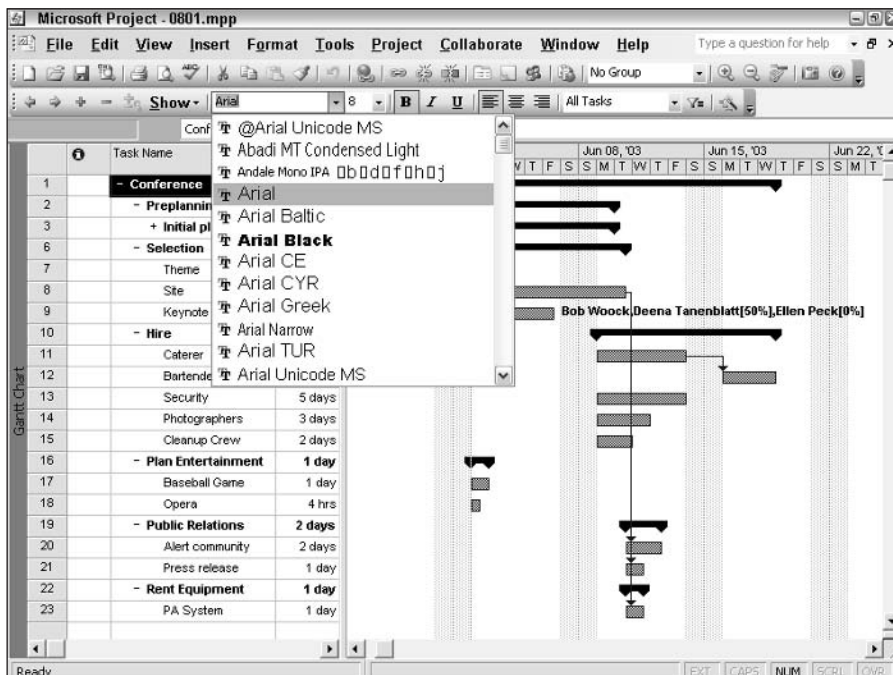

Figure 8-7: When you view the fonts in the Font list box, you see a facsimile of the font as it will appear if you choose it.
4. If you prefer, you can use buttons on the Formatting toolbar to change font and font size or to apply bold, italic, or underline styles. And, you can preview fonts before you select them from the Formatting toolbar, as shown in Figure 8-7.